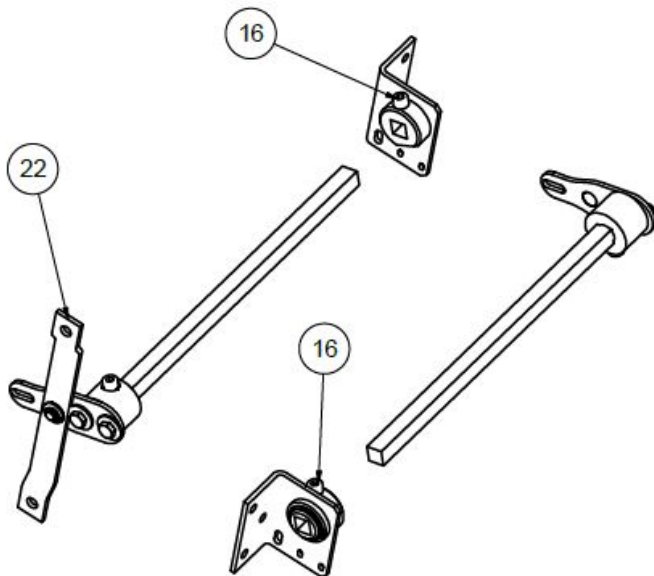

Figure 4
During assembly, it must be taken into account that both the base plates (6 and 7) and the support bushings (8 and 28) have different shapes on the right and left sides. Make sure the grooves on the base plate are always facing down (see Figure 4). Also, check that the flat face of the bushing is parallel to the plate grooves, with the thread oriented towards the lift frame at all times, as shown in Figure 4. The rest of the components can be used on either side.
Before attaching the base plates to the arms, differentiate which base plate belongs to which side of the driving bar. Insert the arm with the governor linkage (22) into the plate on the side where the overspeed governor will be located, and the other on the opposite side. Tighten the support bushing screw (16) on the shaft, so that both are joined. See Figure 4.